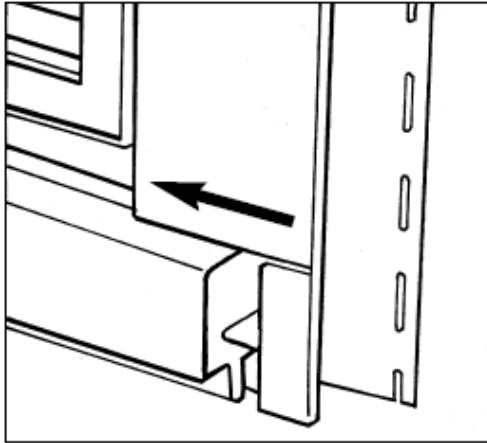

Figure 8
- 6) On the top, cut a 1" notch off the inside or starter side leg and an equal 7/8" notch out of the inside of the receiving pocket of the lineal. Trim foam down to the notches. (Figure 8)